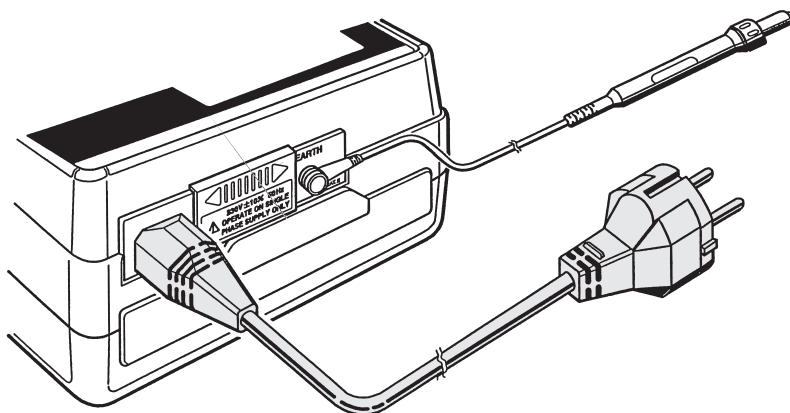
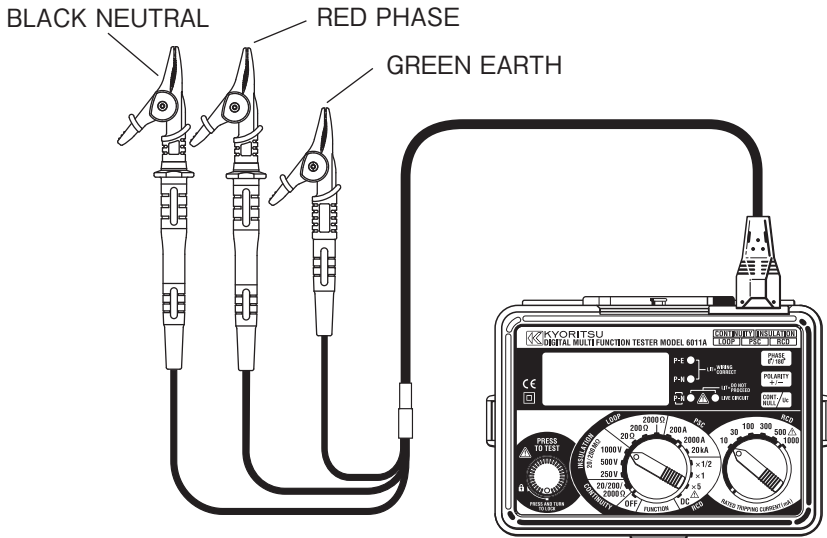

Fig 9
Fig 10
2. Connect the mains lead to the IEC socket of the instrument(see fig9).
4. Connect the instrument to the RCD to be tested either via a suitable socket outlet (see fig 9) or using the OMA DIEC(Model7133B) test lead set (see fig 10) .